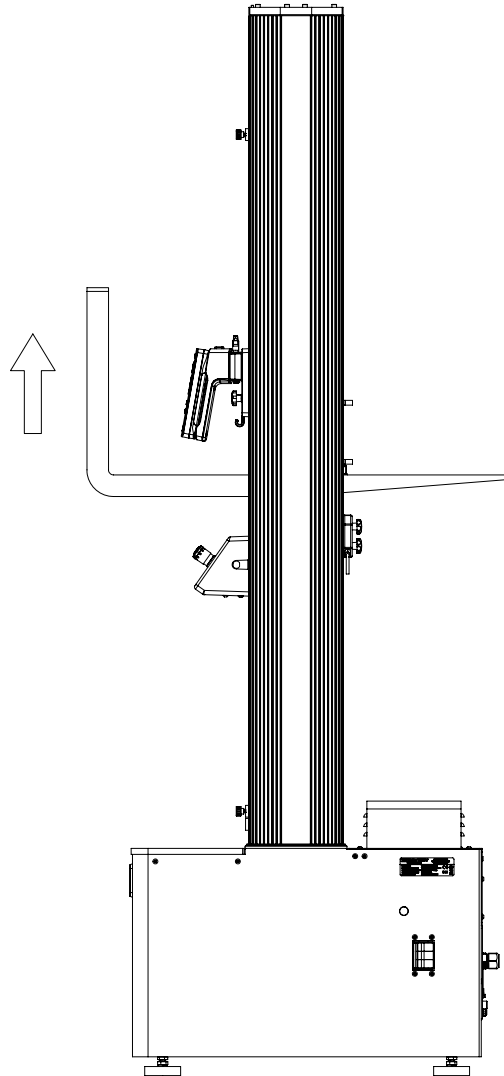

Figure 23. Lifting the Frame from the Crosshead
1. Using a forklift with padded forks or protective material around the crosshead, carefully insert the forks under the crosshead between the columns. See Figure 23 on page 77.